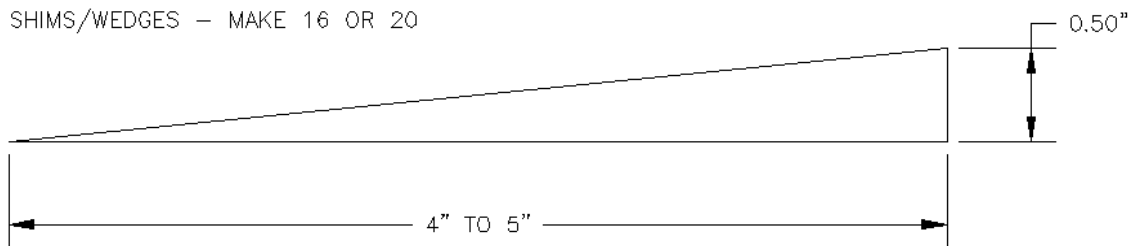

Figure 5-2: Wooden Wedges
3. Shims/wedges should be placed on the subbase, as shown in Figure 5-2. Use 2 to 3 per stack to obtain desired gap between baseplate and sub-base. Normal gap is 1" to 1-1/2".